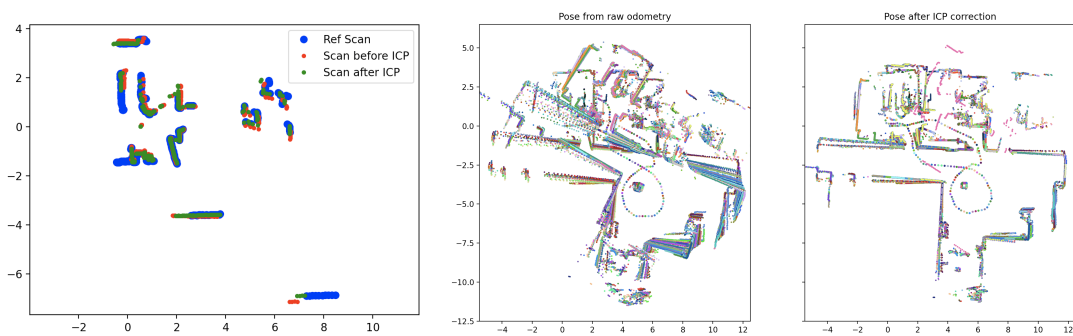

Figure 1: Sample of the `icpTest` and `icpLocalization` function display.
- `icpTest.py` is a script designed to evaluate the performance of the ICP method and the variants you will implement. It reads two scans whose true relative position is known, applies a random displacement to the second scan and applies the `icp` function to register the scan on the first one (Fig. 1, left). It then measures the error between the computed position and the true position and reports a mean error value, its variance and computation time.
- `icpLocalization.py` reads a full dataset, then use ICP to register each scan on the previous one in order to correct the odometry pose error (Fig. 1, right). It is able to correct a part of the Localization error, but will not provide a globally consistent view of the environment as it is not building any map.